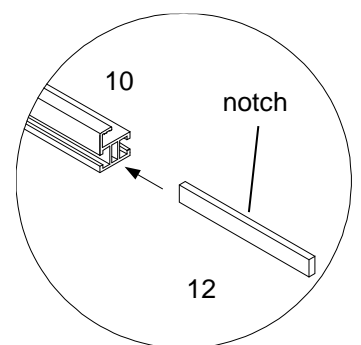

Fig. 4
9. After this, fix each collector **twice** by using a self-tapping screw (11) on the support profile (10). The hole in the profile has already been drilled.
10. In the event of that several support profiles (10) have to be connected a connection piece (12) has to be pushed into the corresponding guide of the profile for each separation point. A central notch prevents from slipping through the profile (Fig. 4).